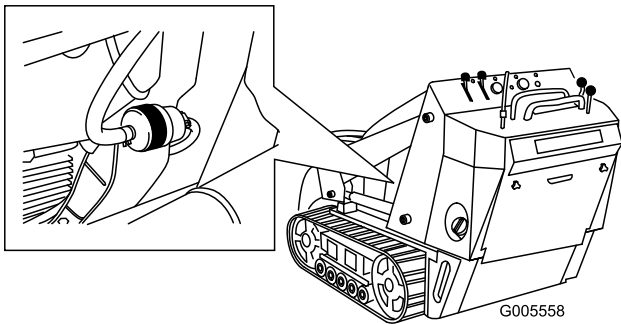

Figure 33
4. Clamp the fuel lines on both sides of the fuel filter (Figure 33).
5. Squeeze the ends of the hose clamps together and slide them away from the filter (Figure 33).